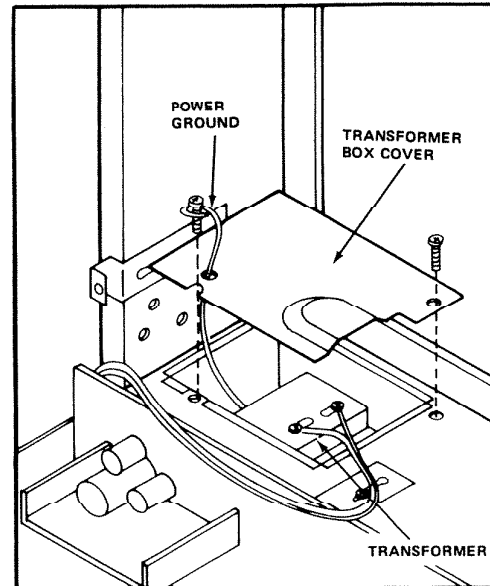

FIGURE 17
2. Connect two low voltage wires (red and white) to the transformer's terminal screws. See Figure 17.
3. Dress wires through raised section of transformer box cover and secure box cover with two screws. See Figure 17.
4. Connect power ground as shown in Figure 17.